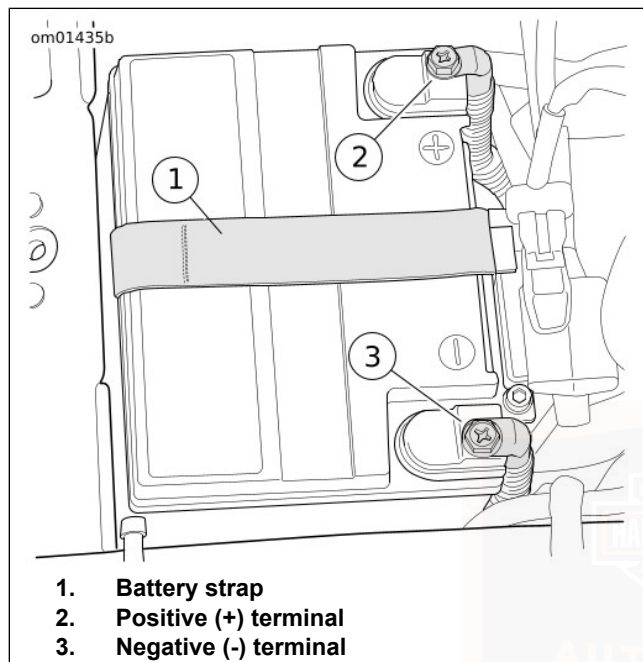

Figure 79. Battery Compartment
9. See Figure 79. Disconnect both battery cables, negative battery cable first.
2. See Figure 79. Place the battery into the battery tray, terminal side forward.